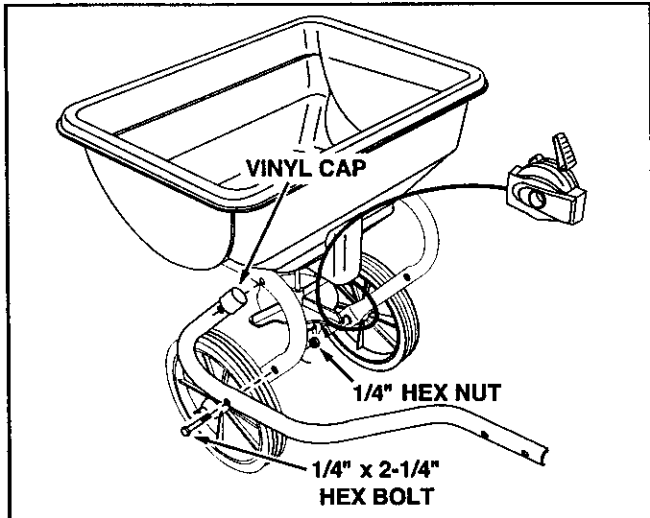

FIGURE 1
1. Assemble vinyl caps onto the ends of the R.H. and L.H. Hitch Tubes. See figure 1.
2. Assemble the R.H. Hitch Tube to the spreader frame tube using two 1/4" x 2-1/4" hex bolts and 1/4" hex nuts. Do not tighten yet. Repeat for L.H. Hitch Tube. See figure 1.